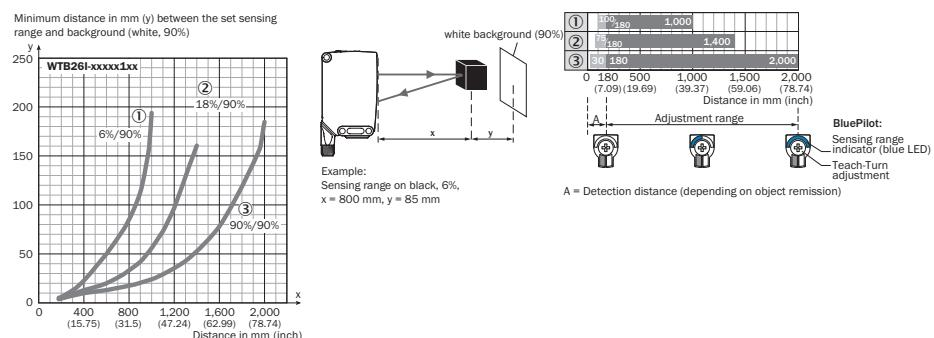

Figure 5: Characteristic line 3, WTB26 I-xxxxx1 xx, infrared light
Check the application conditions: Adjust the sensing range and distance to the object or background as well as the remission capability of the object according to the corresponding diagram [see figures 5 and 6] (x = sensing range, y = minimum distance between set sensing range and background [white, 90%]) Remission: 6% = black ①, 18% = gray ②, 90% = white ③ (referring to standard white as per DIN 5033). We recommend that the adjustment be performed with an object of low remission.